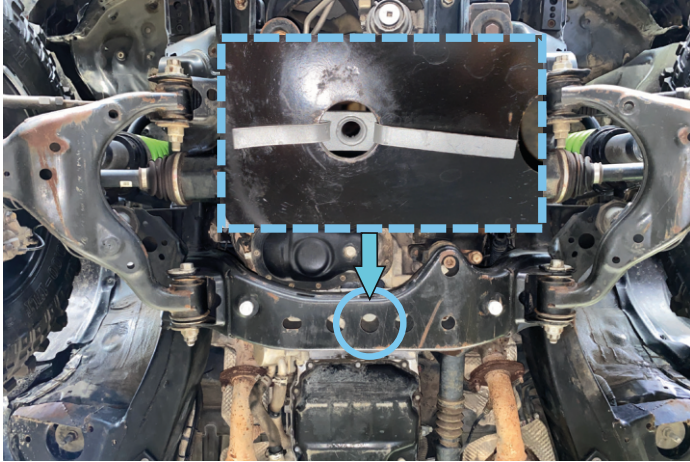

Fig.5
5. Install M8x80 insert nut (item E) into factory crossmember as shown in fig.5.